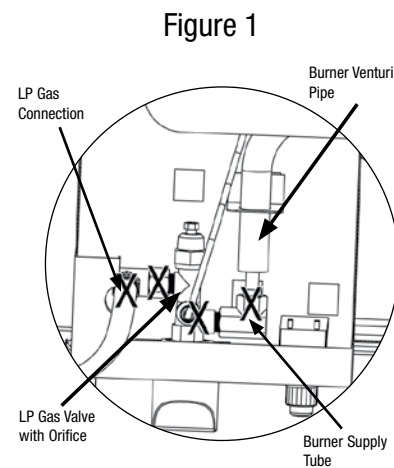

Figure 1
- Please refer to diagrams for proper installation (Figures 1 and 2).
- Spoon several drops of solution, or use a squirt bottle, at all "X" locations (Figures 1 and 2).